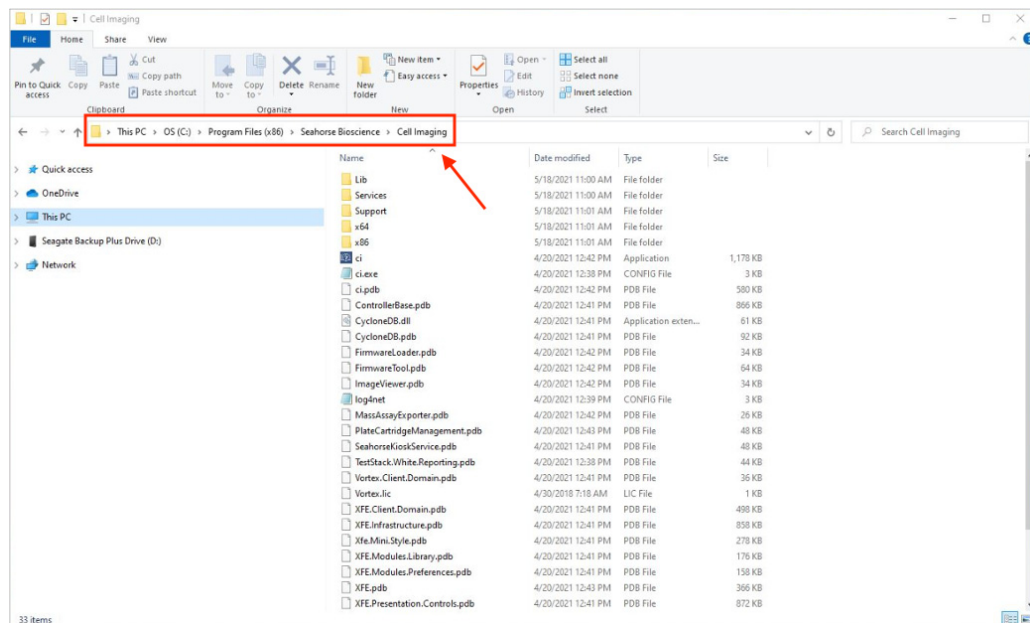

Figure 26. C:\Program Files (x86)\Seahorse Bioscience\Cell Imaging file location.
- 13 Once installation of the XF Imaging and Cell Counting software application complete, go to: C:\Program Files (x86)\Seahorse Bioscience\Cell Imaging (**Figure 26**).